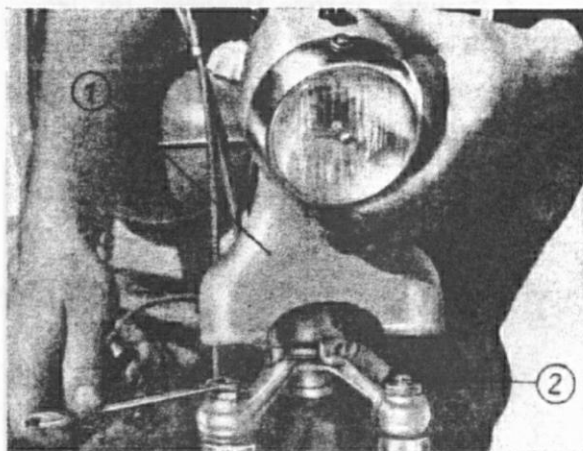

Fig. 11: Unscrewing the oil screws of the telescope front fork
- (c) Pull head lamp bracket upwards (Fig. 11, No. 1).
- (d) Unscrew oil screws (Fig. 11, No. 2).